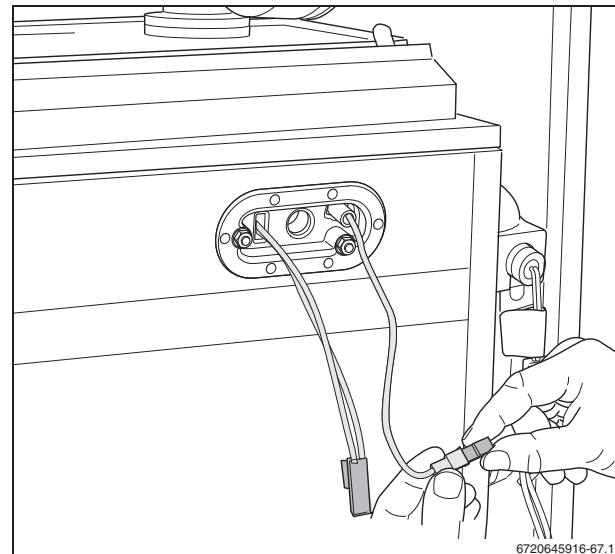

Fig. 67 Removing the ionization electrode plug and socket connection
- Undo the plug and socket connection of the monitoring cable (fig. 67).